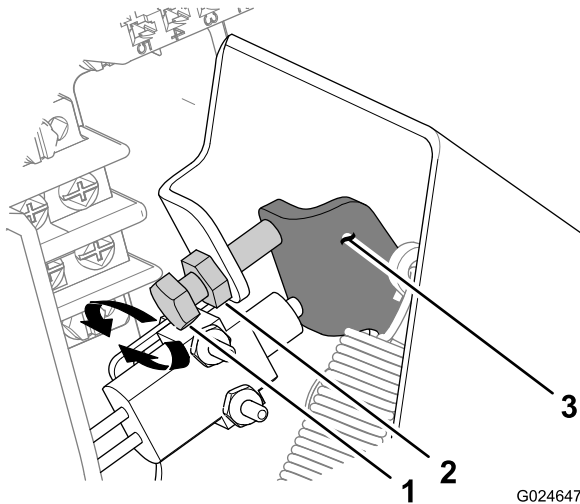

Figure 44
- A. Loosen the jam nut that secures the accelerator-pedal stop (Figure 44).
- Clockwise to increase the pedal-free travel (Figure 44).
- Counterclockwise to decrease the pedal-free travel (Figure 44).
- C. Tighten the jam nut (Figure 44).
- D. Repeat steps 1 through 4 to measure the pedal-free travel (Figure 44).